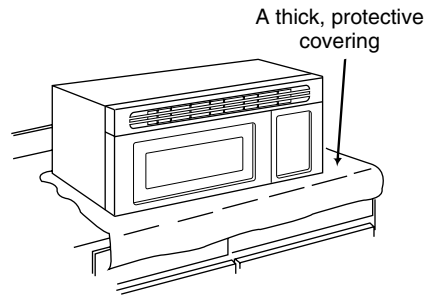

Figure 17
2. Cover the counter top or cooktop with a thick, protective covering to protect it from damage and dirt. See Figure 17.